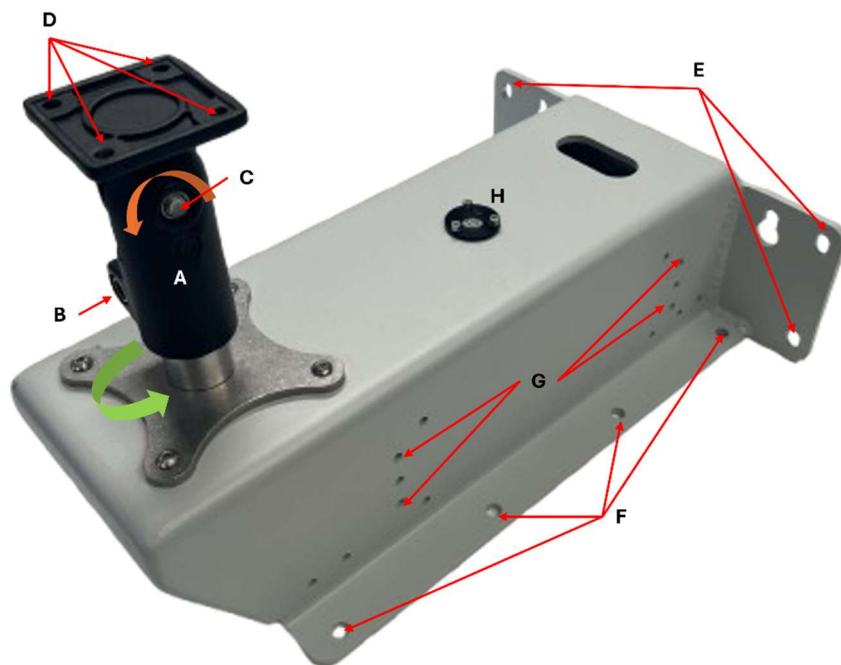

Fig. 5 Fixed Mount Kit
MyMo Fixed Mount Kit (1047900) (Fig. 5) allows **MyMo** to be installed and used in those circumstances where the tripod may not be suitable for the purposes of monitoring.
1. With the *Fixed Mount Kit* upside-down, place the bolts, washers and nuts provided (using “G” of Fig. 5), and make sure that they are loose, to allow the correct insert of the power supply,
3. Use the cable gland hole (A) to pass the cable and to connect the output side of the cable to the PWR plug of **MyMo** (B). Then, connect "C" to the right adapter, depending on the Region where the system is used.
1. Place **MyMo Fixed Mount kit** on the horizontal plan selected for the monitoring and sign the points corresponding to the holes (F in Fig. 5). Drill these points with the correct size drilling rig,
5. Adjust the heading of **MyMo** acting on screws **B** and **C** of the tilting head (Fig. 5)
1. Place **MyMo Fixed Mount Kit** on the vertical structure selected for the monitoring and sign the points corresponding to the holes (E in Fig. 5). Drill these points with the correct size drilling rig,
5. Using holes "E" of Fig. 5, fix the **Fixed Mount Kit** to the **Pole Adapter** using the (4) bolts, (8) washers, and (4) locking nuts provided with the kit.